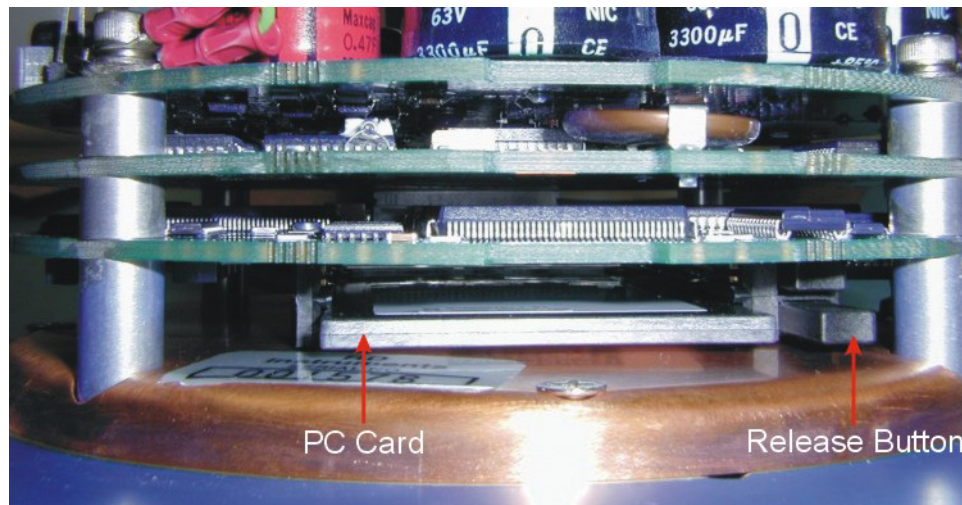

Figure 9. PC Card Recorder
The PC Card recorder is located on the Digital Signal Processor (DSP) board inside the Navigator's electronics (see Figure 9). To recover data, the card can be removed and used in a personal computer (PC), or left in the Navigator, and accessed by using *BBTalk* (see the RDI Tools User's Guide). To remove or install a PC card, do the following.